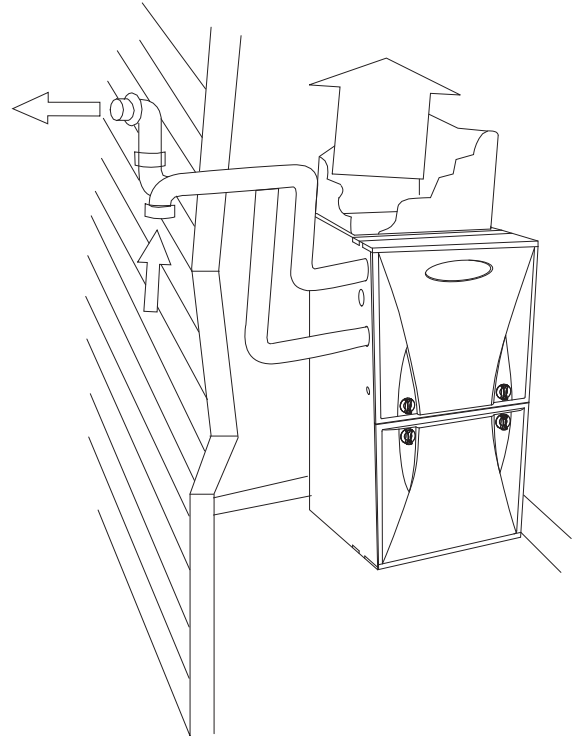
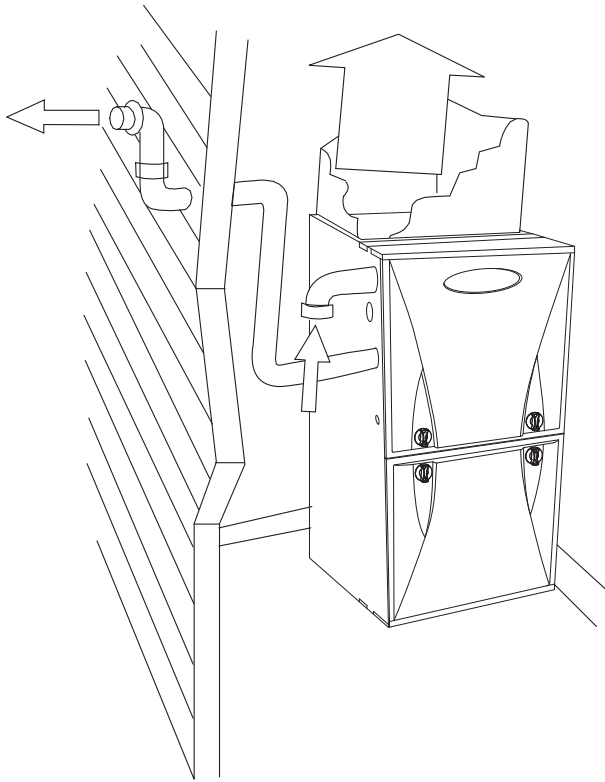

Fig. 2 – Exterior Vent Pipes
Fig. 3 – Interior Combustion – Air Pipe
- Your new gas furnace may have been installed in one of two ways, as a direct-vent (2-pipe-Fig. 2) application or as a non-direct vent (1-pipe-Fig. 3) application.
- **In a direct-vent (2-pipe) application**, your furnace uses air from outside the home for combustion and vents flue gas to the outdoors. This type of application will have two pipes running from the furnace to the outdoors. In some cases, the inlet air pipe may be located in an area that has access to outdoor air, such as an attic. In all cases, the outlet vent pipe must be routed to the outdoors. (See Fig. 2.) In this application, the vent and air-intake pipes must terminate outside the structure and must not be obstructed in any way. Do not block or obstruct air openings on furnace or spaces around furnace.
- **In a non-direct vent (1-pipe) application**, your furnace uses air from adjacent to the furnace for combustion and vents flue gas to the outdoors. This type of application will have only one pipe running from the furnace to the outdoors. (See Fig. 3.) The other pipe will terminate in the same space as the furnace and is the source of combustion air for your furnace. Therefore, the furnace must not be enclosed in an airtight room or be sealed behind solid doors. It must have adequate airflow for efficient combustion and safe ventilation. Do not obstruct the combustion-air pipe in any way. The vent pipe must terminate outside the structure and must not be obstructed in any way. Do not block or obstruct air openings or space around furnace.